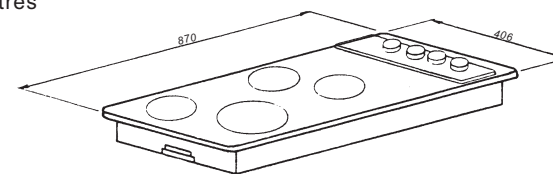

Fig. 2A
- THE RECTANGULAR BENCH CUTOUT** should be made per diagram (Refer to Fig 2A.)